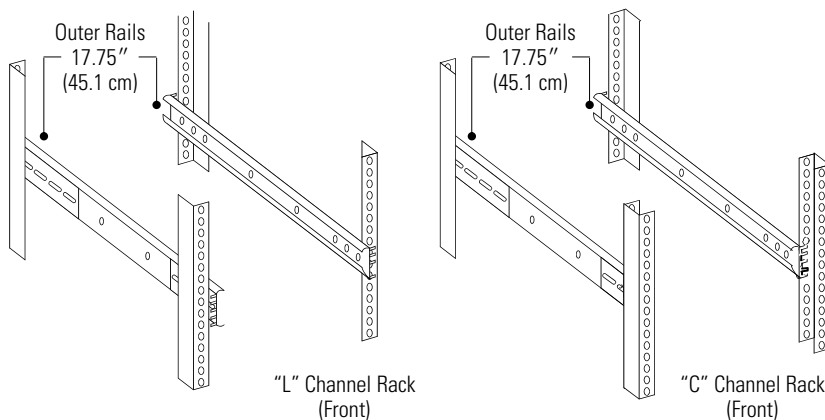

Figure 18. Attaching the Outer Rails to the Rack
8. To ensure the RBC-3 front panel fits flush with the front of the rack, use a rack with front supports that are "L" channels and mount the outer rail on the front of the "L" channel as shown in Figure 18.
NOTE Figure 18 is only an example for mounting position. Different rack manufacturers may vary in design and/or dimensions. Some racks have a "C" channel in the front; the mounting brackets should be attached to the rear of the "C."
10. Attach the outer rails to the rack using appropriately-sized bolts for your rack (not supplied). See Figure 18.